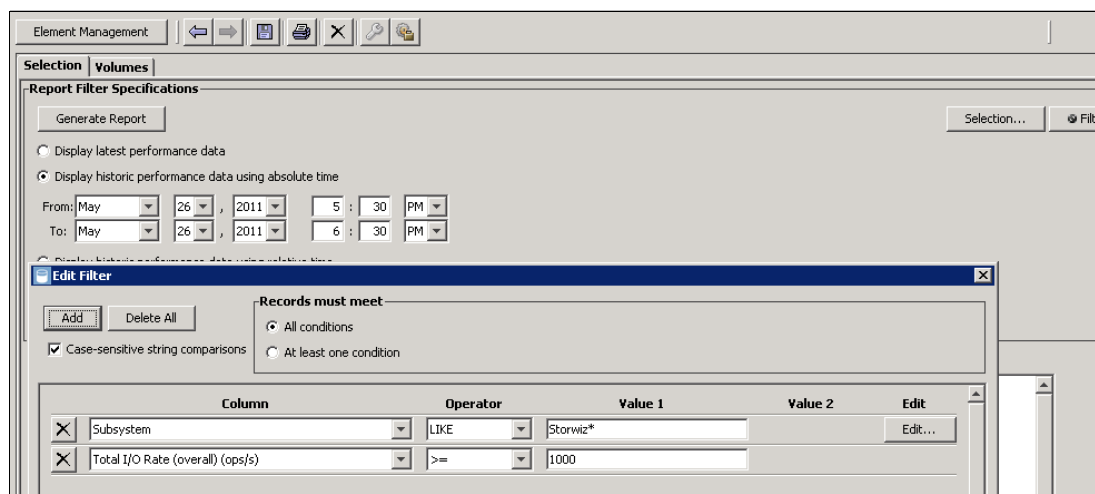

Figure 13-117 Displaying the historic performance data
- c. In the Edit Filter window (see Figure 13-117 on page 452), complete the following steps:
- Remove the filtering condition on the Total I/O Rate that is defined in Figure 13-117, and then generate the report again.